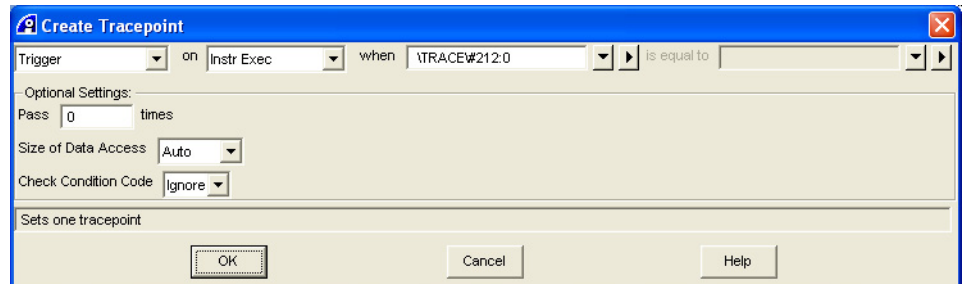

Figure 7-3 Create Tracepoint dialog box
2. Select **Create Tracepoint...** from the context menu to display the Create Tracepoint dialog box. Figure 7-3 shows an example: